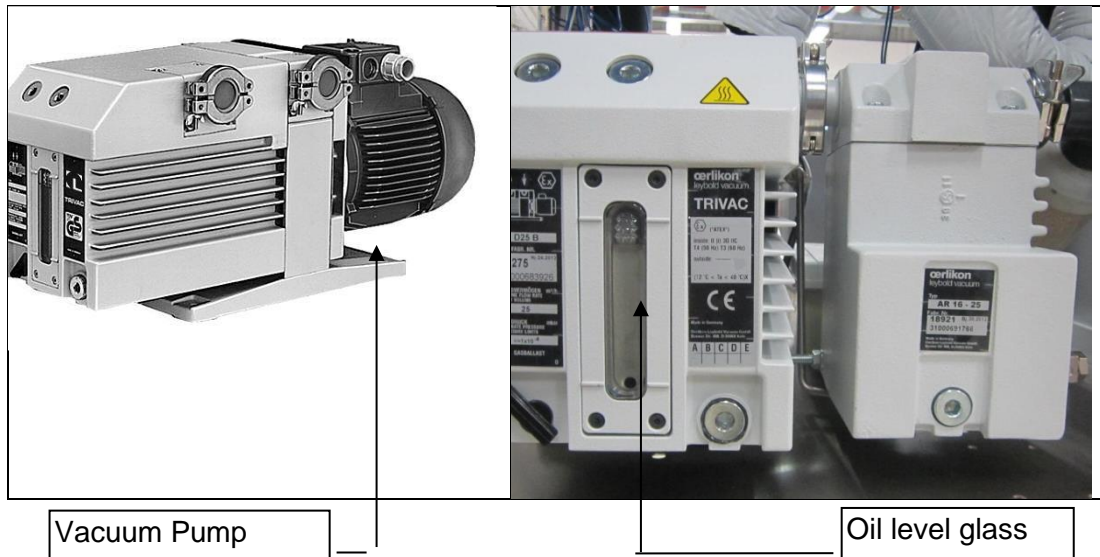

Figure 16 –Vacuum Pump
2. Take out the screw caps on the sterilizing supply drawer. Unscrew the drawer panel & remove it. Remove the lower front panel (Figure 1), and verify the vacuum pump oil level. The oil must be between the minimum and maximum level marks ;(Figure 16).